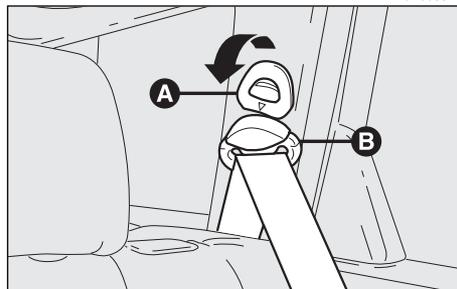

fig. 46
To adjust the belt, use handle (A-fig. 46) (front seat belts) or (A- fig. 47) (rear side belts, Sportwagon versions only) as shown by the arrow and raise or lower the rocker ring (B) to the most suitable of the possible positions. After adjusting, release handle (A).
After adjustment, always check that the slider (B) is anchored in one of the positions provided. To do this, with the button (A-fig. 46) or (A-fig. 47) released, exert a further pressure to allow the anchor device to catch if release did not take place at one of the preset positions.